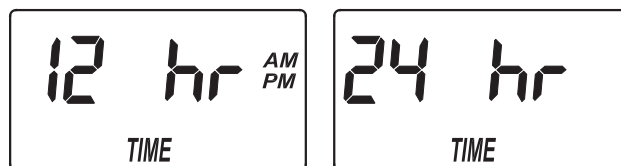

FIG. 24
1. If you completed the previous step, the 12/24 hour clock setting screen should show in the display (See Figure 24). Otherwise, press and hold for 3 seconds the SELECT button, until the display shows "000 - -", then press the SELECT button three times to display the 12/24 hour clock setting screen.